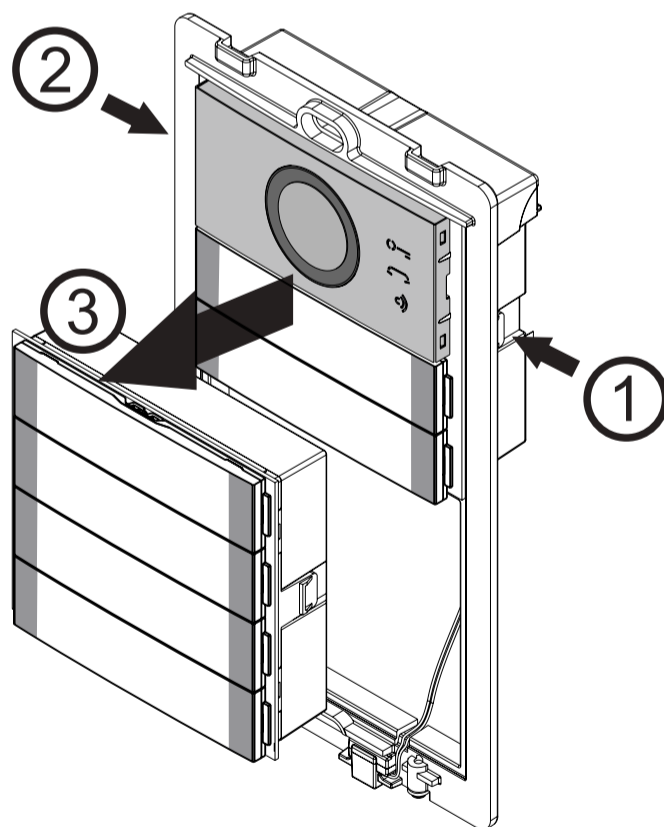

Fig. 12a
- Remove the modules (figure 12a, 12b, and 12c).